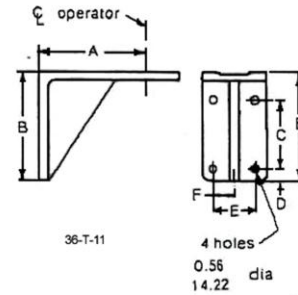
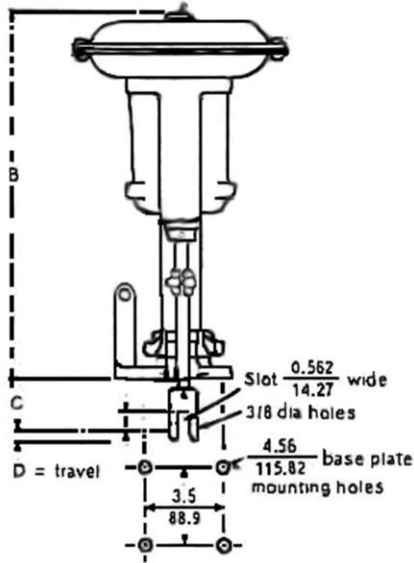
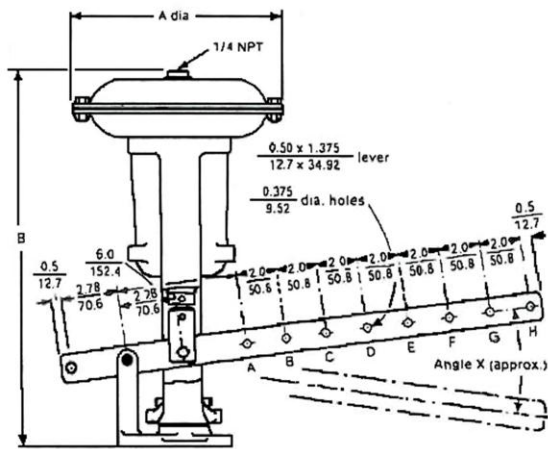

Figure 3 - Wall Bracket Dimensions (Refer to Table 6)
Figure 4 - Thrust Model (refer to Table 7)
Figure 6 - Lever Model (Refer to Table 8)
TABLE 6 - Wall Bracket Dimensions (Figure 3)
TABLE 7 - Dimensions, Inches (Millimeters), Thrust Models (Figure 4 and 5)
**TABLE 8 - Dimensions, Inches (Millimeters) Lever Models (Figure 6)**
Dimensions	Wall Bracket - Refer to Table 6 (Figure 3) Thrust Model - Refer to Table 7 (Figures 4 and 5) Lever Model - Refer to Table 8 (Figure 6)